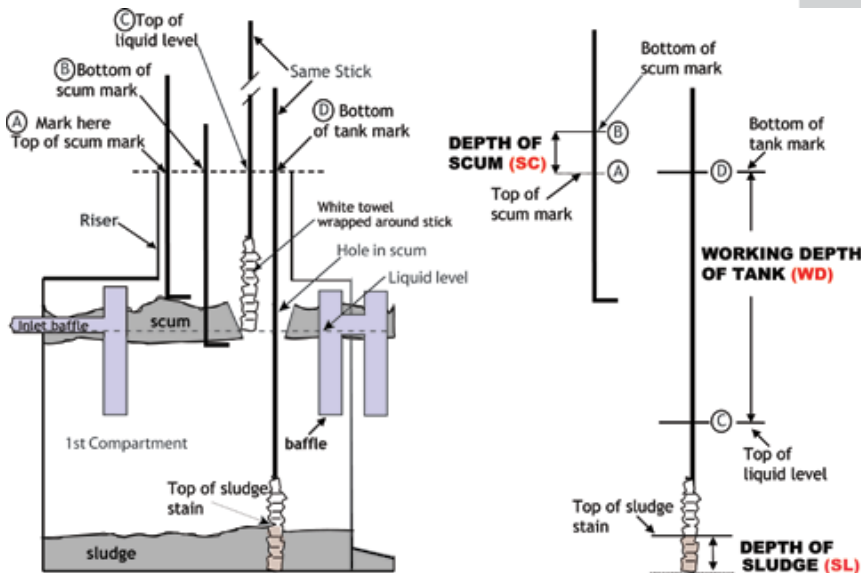

FIGURE 1 - SCUM DEPTH (SC), SLUDGE DEPTH (SL) AND WORKING DEPTH OF TANK (WD)
3. Place the scum stick down the manhole of the first compartment of the tank until it rests on top of the scum layer (see Figure 1) and mark the scum stick where it crosses the reference point (A).
5. Mark the scum stick where it crosses the reference point (B).
6. Remove the scum stick and measure the distance between the two marks. This is the thickness of the scum layer (SC).
4. Carefully lower stick through the hole in scum in first compartment until it rests on top of the liquid layer. Mark the stick where it crosses the opening of the manhole or riser (C in Figure 1).
6. Mark the sludge stick where it crosses the board (D in Figure 1). The distance